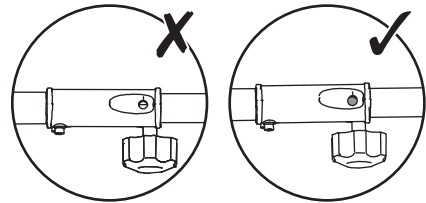

Fig. 2
3. Make sure the pin (11a) snaps in place (Fig. 2).